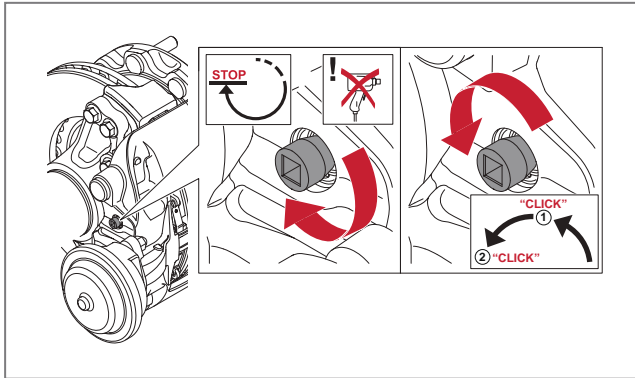

Fig. 10 - Basic setting
2. Then rotate the reset shaft 2 clicks anti-clockwise, see ► Fig. 10. That is the procedure for the basic setting after successful repair or brake pad change.